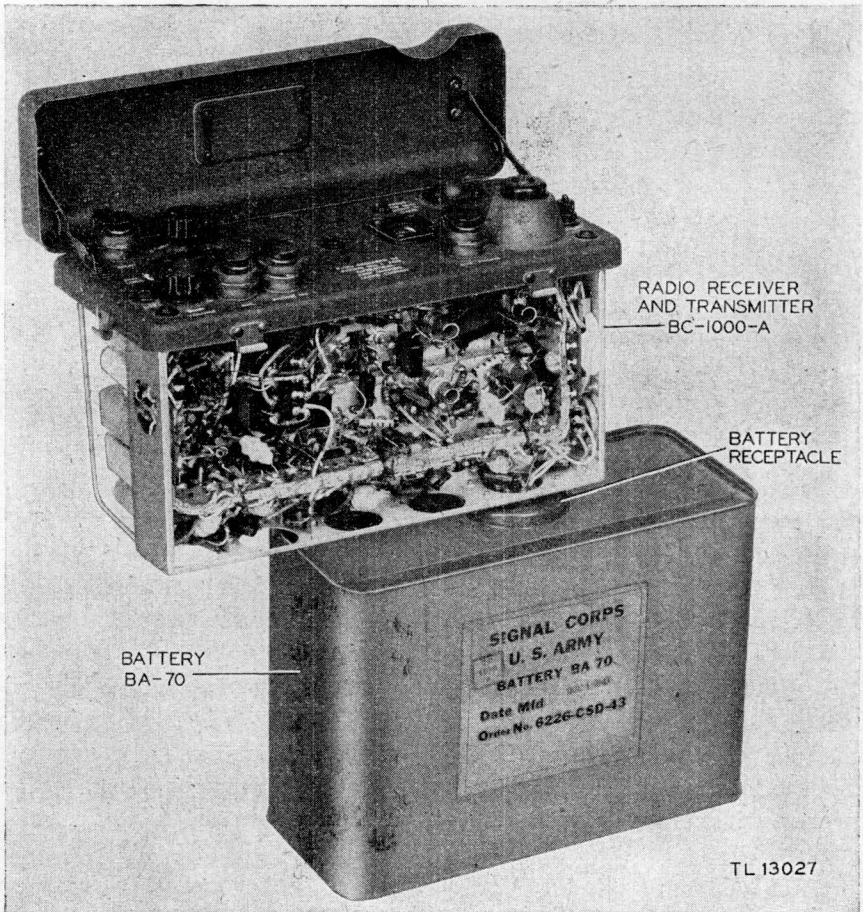

Figure 72. Radio Receiver and Transmitter BC-1000-A, connected directly to Battery BA-70 for test purposes.
b. While the set is out of the case, supply power by plugging the chassis directly into the battery receptacle, as shown in figure 72.